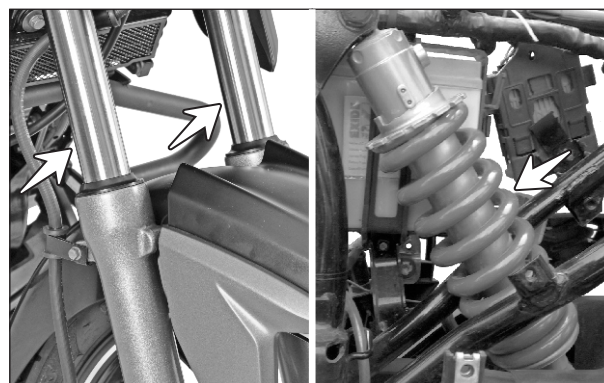

Fig. 2.85
- Inspect the front fork (both the legs) for smooth operation / proper action. If found any abnormality service the leg assemblies as explained in chapter "Chassis" page no. 6-17. (Fig. 2.85)
- Similarly, inspect the rear shock absorber for smooth operation / proper action. If found any abnormality replace the shock absorber. Check the shock absorber for any mud / dirt accumulation. If found with mud or dirt, clean them thoroughly. (Fig. 2.85)